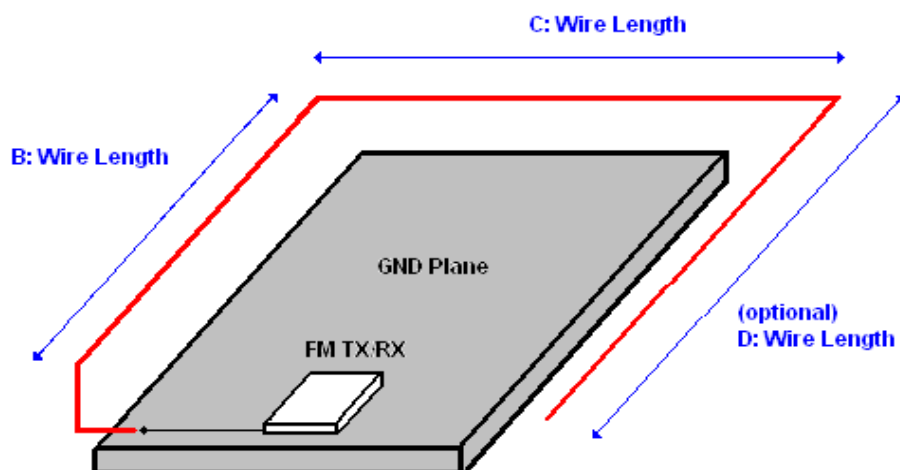

Figure 4. U-Shaped Stub (Wire) Antenna - Orthogonal View
- Route the antenna as a "U" shape as shown in Figure 4.